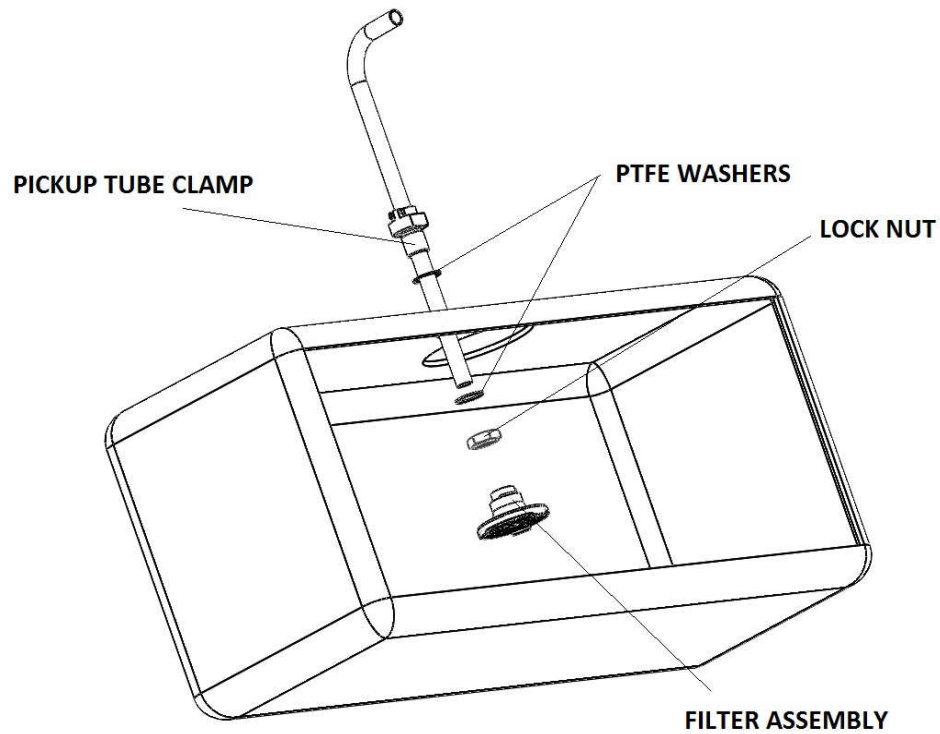

FIGURE 1-3
4. Insert the pickup tube assembly as illustrated in **FIGURE 1-3**. Place one PTFE washer, lock nut and filter assembly into tank using the factory fuel module (**do not tighten anything yet**). Lightly oil the pickup tube and insert it thru the pickup tube clamp. There will be some resistance because of the two sealing o-rings. Lube the end of the tube and push it into the filter assembly and tighten the filter clamp (tube can be tilted toward the factory open to aid in assembly). Now tighten the pickup tube clamp lock nut.